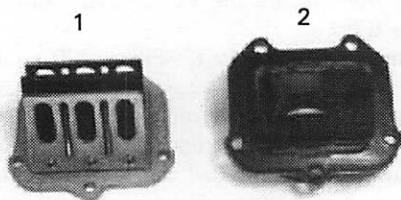

Figure 80
2. Check the reed valve petals (1, Figure 80) for cracks or other defects.
4. Inspect the intake manifold (2, Figure 80) for cracks, warpage or other damage.